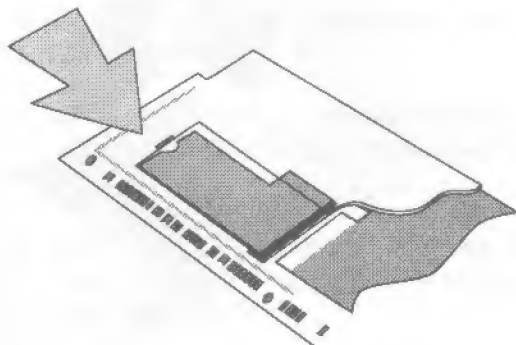

Figure 1.4 — Inserting the A1230
5. Align the connector of the A1230 Turbo+ with the card-edge in the A1200. Using the finger cut-out on the end of the board, apply pressure until the board seats on the card-edge completely (Figure 1.4).